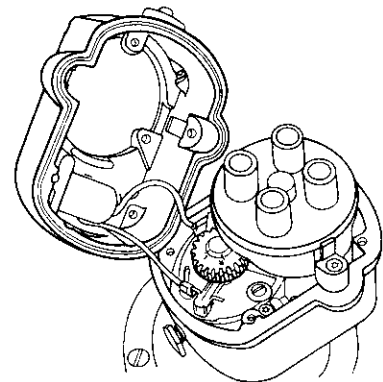

Figure 7.17
- Connect retard terminal wire to retard contact points. (See Figure 7.17).